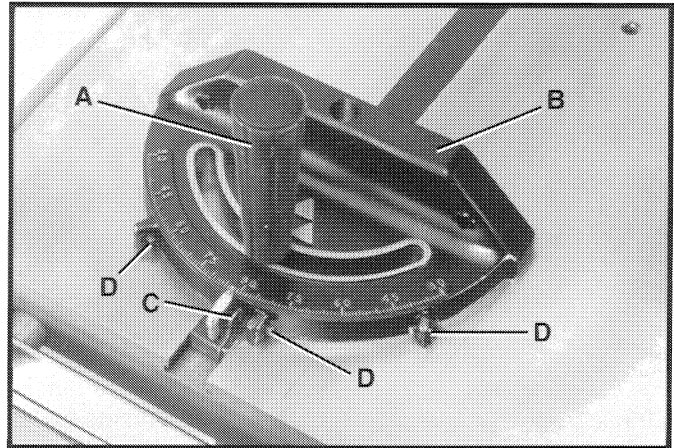

Fig. 80
To operate the miter gage, simply loosen lock handle (A) Fig. 80, and move the body of the miter gage (B) to the desired angle. The miter gage body will stop at 90 degrees and 45 degrees both right and left. To rotate the miter gage body past these points, the stop link (C) must be flipped out of the way.
The miter gage is equipped with individually adjustable index stops at 90 degrees and 45 degrees right and left. Adjustment to the index stops can be made by tightening or loosening the three adjusting screws (D) Fig. 80, against the stop link (C).